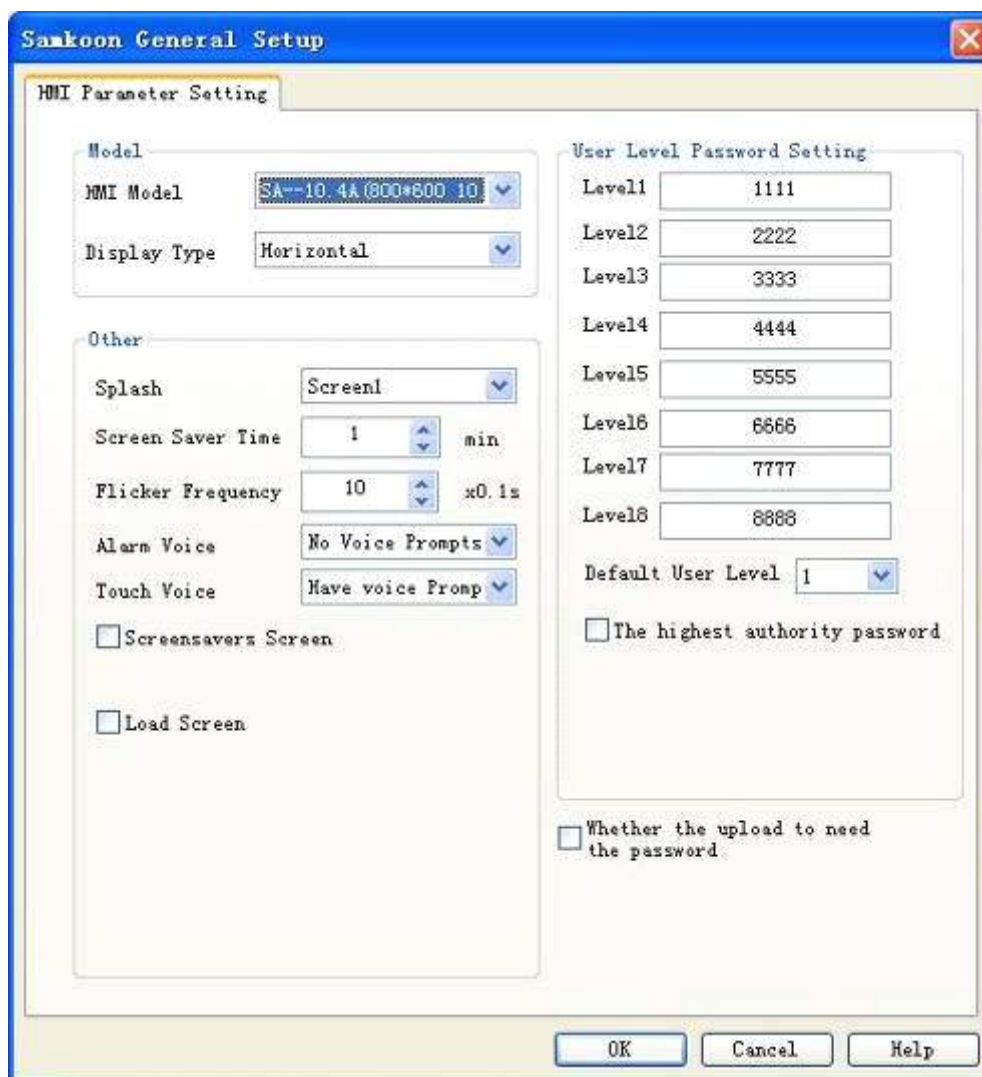

Figure 7-3 Parameter setting of touch screen
- ◆ Double click the option “Parameter Setting of Touch Screen” in “Project Manager” to pop up a dialog box as shown in figure 7-3.